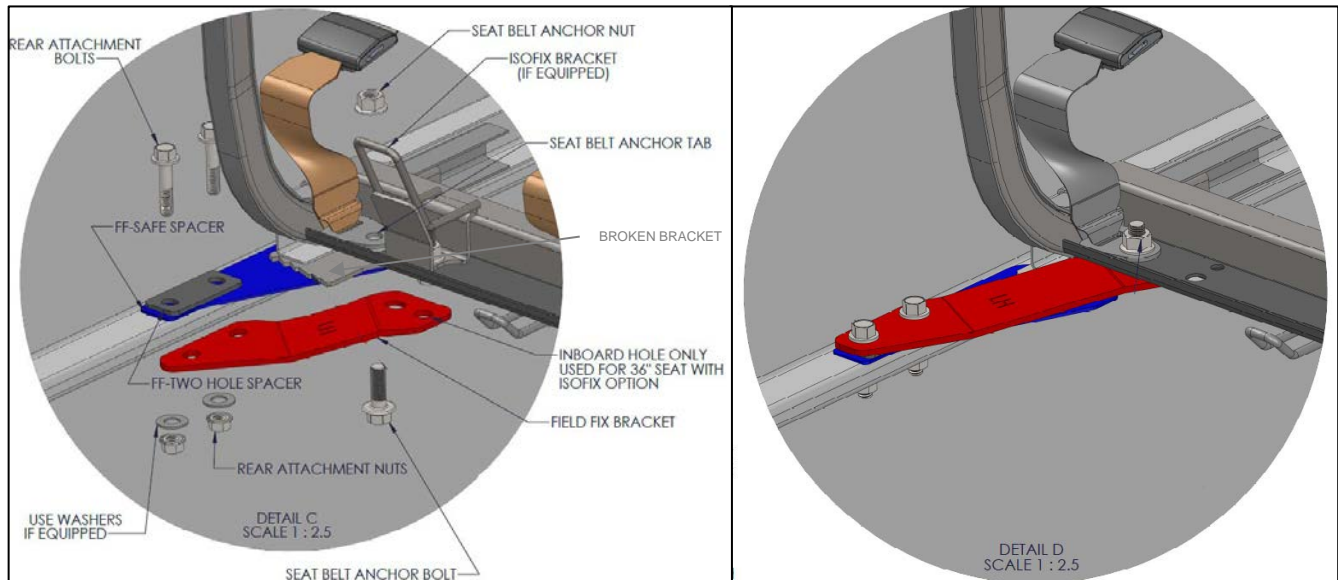

Figure 15: Installation of Safe Spacer – 30 Inch Seats (Driver's Side Show)
4. Install the new bracket (TBB 20624 for Driver's Side or TBB 220625 for Curb side) on top of the existing wall bracket and the safe spacer. See **Figure 15**.